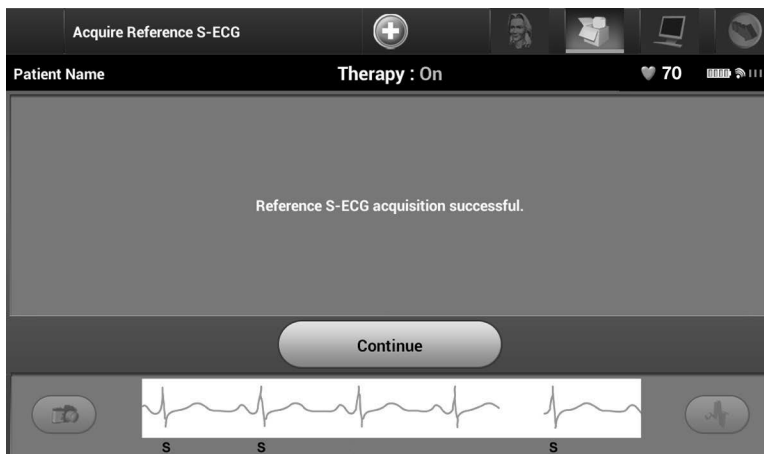

Figure 53: *Captured Reference S-ECG confirmation*
2. The Acquire Reference S-ECG process is automatically enabled during the Manual Setup Process. Select the Continue button to acquire a reference S-ECG. A confirmation screen will appear when the captured reference S-ECG is acquired (Figure 53).